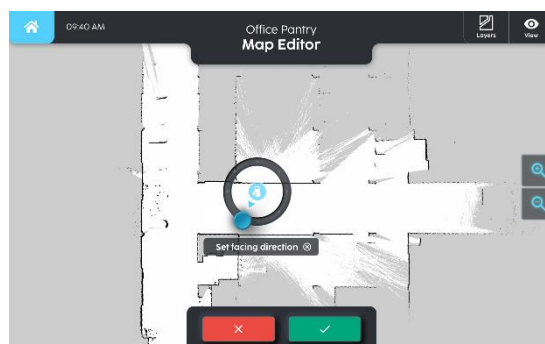

Fig 7
7. On the map tap the place where the docking station is positioned (Fig 7).
8. Orient the position of the station by tapping the arrows shown in Fig 7.